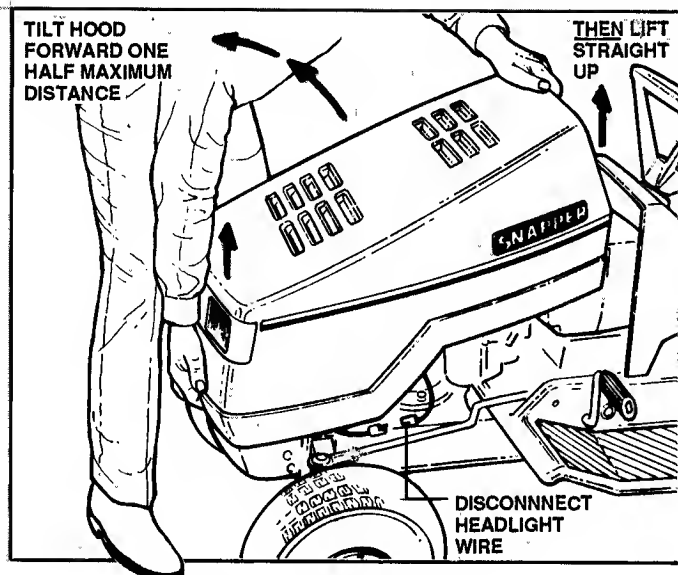

FIGURE 29
2. Tilt hood forward one half maximum distance, then lift straight up to remove. There will be some resistance from the retaining pins, requiring a slight "tug". See Figure 29.